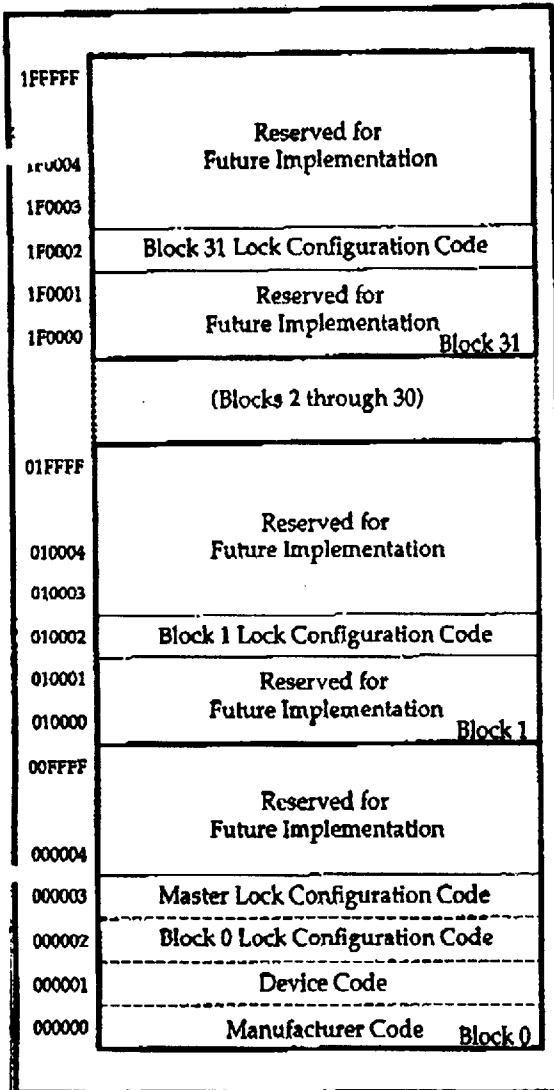

Figure 3. Device Identifier Code Memory Map
The read identifier codes operation outputs the manufacturer code, device code, block lock configuration codes for each block, and the master lock configuration code (see Figure 3). Using the manufacturer and device codes, the system CPU can automatically match the device with its proper algorithms. The block lock and master lock configuration codes identify locked and unlocked blocks and master lock-bit setting.
IA=Identifier Code Address: see Figure 3.
The identifier code operation is initiated by writing the Read Identifier Codes command. Following the command write, read cycles from addresses shown in Figure 3 retrieve the manufacturer, device, block lock configuration and master lock configuration codes (see Table 5 for identifier code values). To terminate the operation, write another valid command. Like the Read Array command, the Read Identifier Codes command functions independently of the V_{PP} voltage and \overline{RP} can be V_{IH} or V_{HH} . Following the Read Identifier Codes command, the following information can be read:
- X selects the specific block lock configuration code to be read. See Figure 3 for the device identifier code memory map.